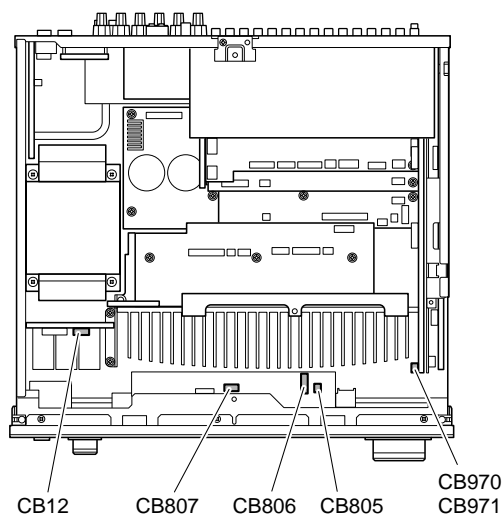

Fig. 2
- b. Remove CB12, CB805-807, CB970 and CB971. (Fig. 2)
(Fig. 2)